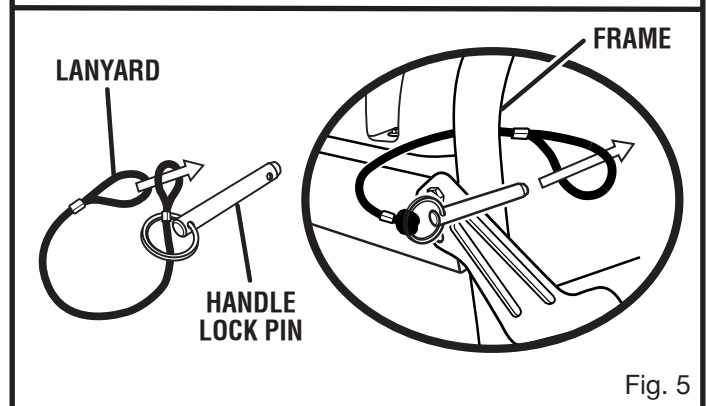

Fig. 5
See Figures 5 - 6.
- Attach the lanyard to the handle lock pin and the handle as shown in figure 5.